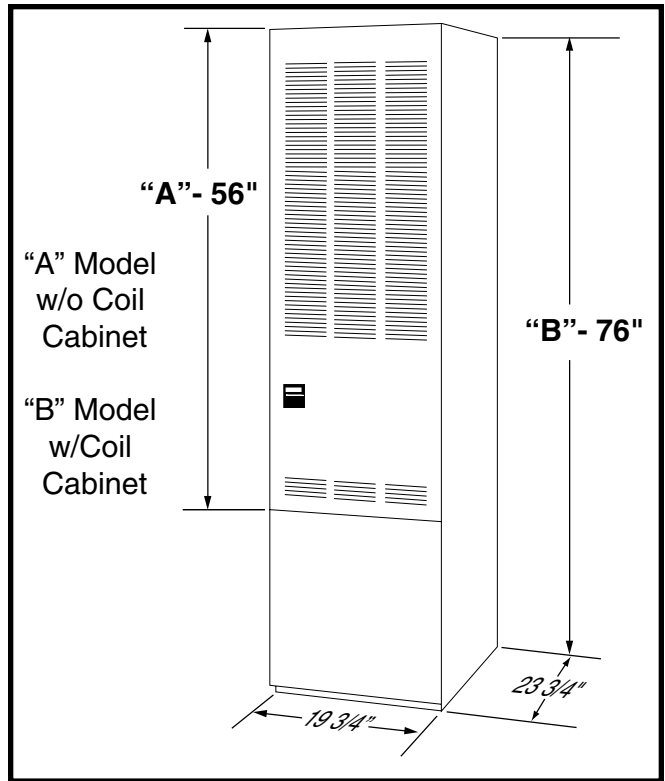
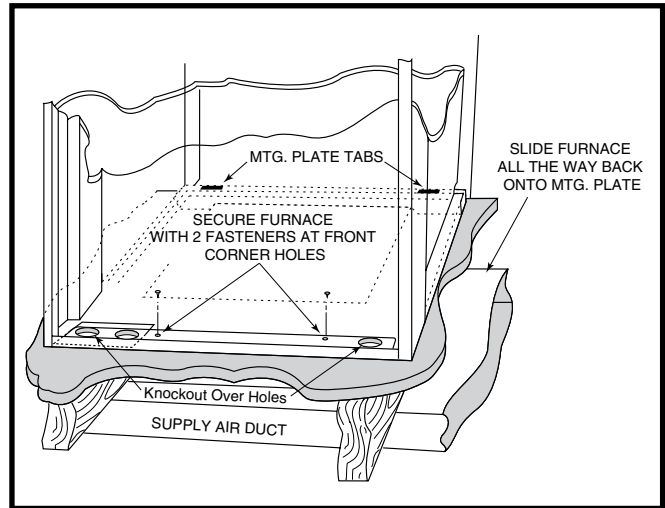
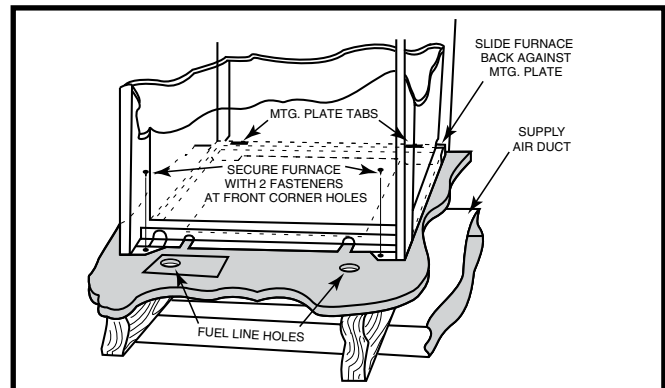

Figure 4. Overall Dimensions
Figure 14. "A" & "B" Cabinet Furnaces
Figure 15. "A" Cabinet Furnace on Coil Cabinet
- The dimensions of the room or alcove must be able to accommodate the overall size of the furnace and the installation clearances listed in Table 1 and in Figure 4 \(page 5\).
Sides and back of the furnace may be enclosed by wall framing such as in a closet or alcove. The dimensions of the room or alcove must be able to accommodate the overall size of the furnace shown in Figure 4 (page 5) and the installation clearances outlined on page 4. The furnace shall be appropriately connected to the supply distribution system as shown in Figure 14 (page 9) & Figure 15 (page 9).
4. Secure front with one (1) fastener at each corner. See Figure 14 & Figure 15.